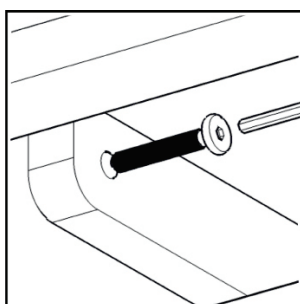

Figure 4
Place Top (A) onto the unit with Head Cap Bolts (long). (See Figure 4)